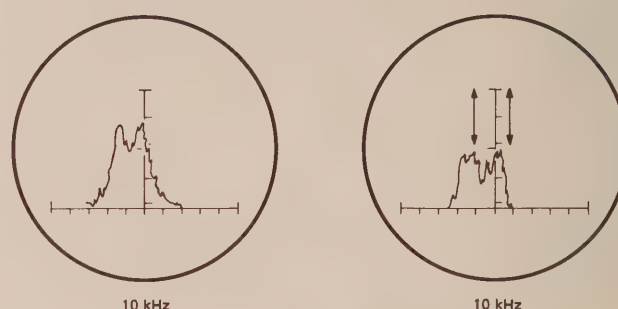

Figure 32
**Figure 32 - Interfering AM Signals:** The adjacent sidebands of two interfering AM signals will add and subtract giving the effect of a very wide AM signal with the center of the pip varying up and down. These two separate carriers may be seen if they are far enough apart in frequency.